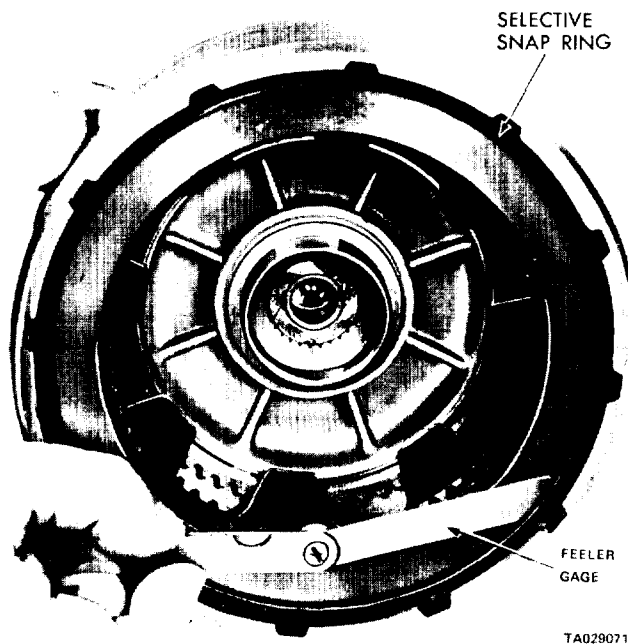

Figure 18-20. Measuring Rear Clutch Plate Clearance.
(6) Install the inner pressure plate in the clutch retainer with the raised portion of the plate resting on the spring.
(7) Lubricate all clutch plates. Install one line plate followed by a steel plate until all plates are installed. Install the outer pressure plate and selective snap ring.
(8) Measure the rear clutch plate clearance by having an assistant press down firmly on the outer pressure plate. Then insert a feeler gage between the plate and the snap ring (figure 18-20). The clearance should be between 0.025 and 0.045 inch. If it is not, install a snap ring of proper thickness to get the specified clearance; low-limit clearance is desirable.